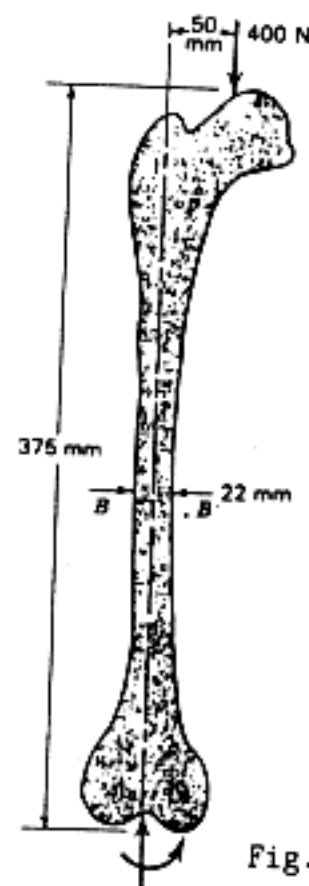

Fig. 5
5. A rough sketch of a human femur subjected to a vertical load of 400 N is shown in Fig. 5.